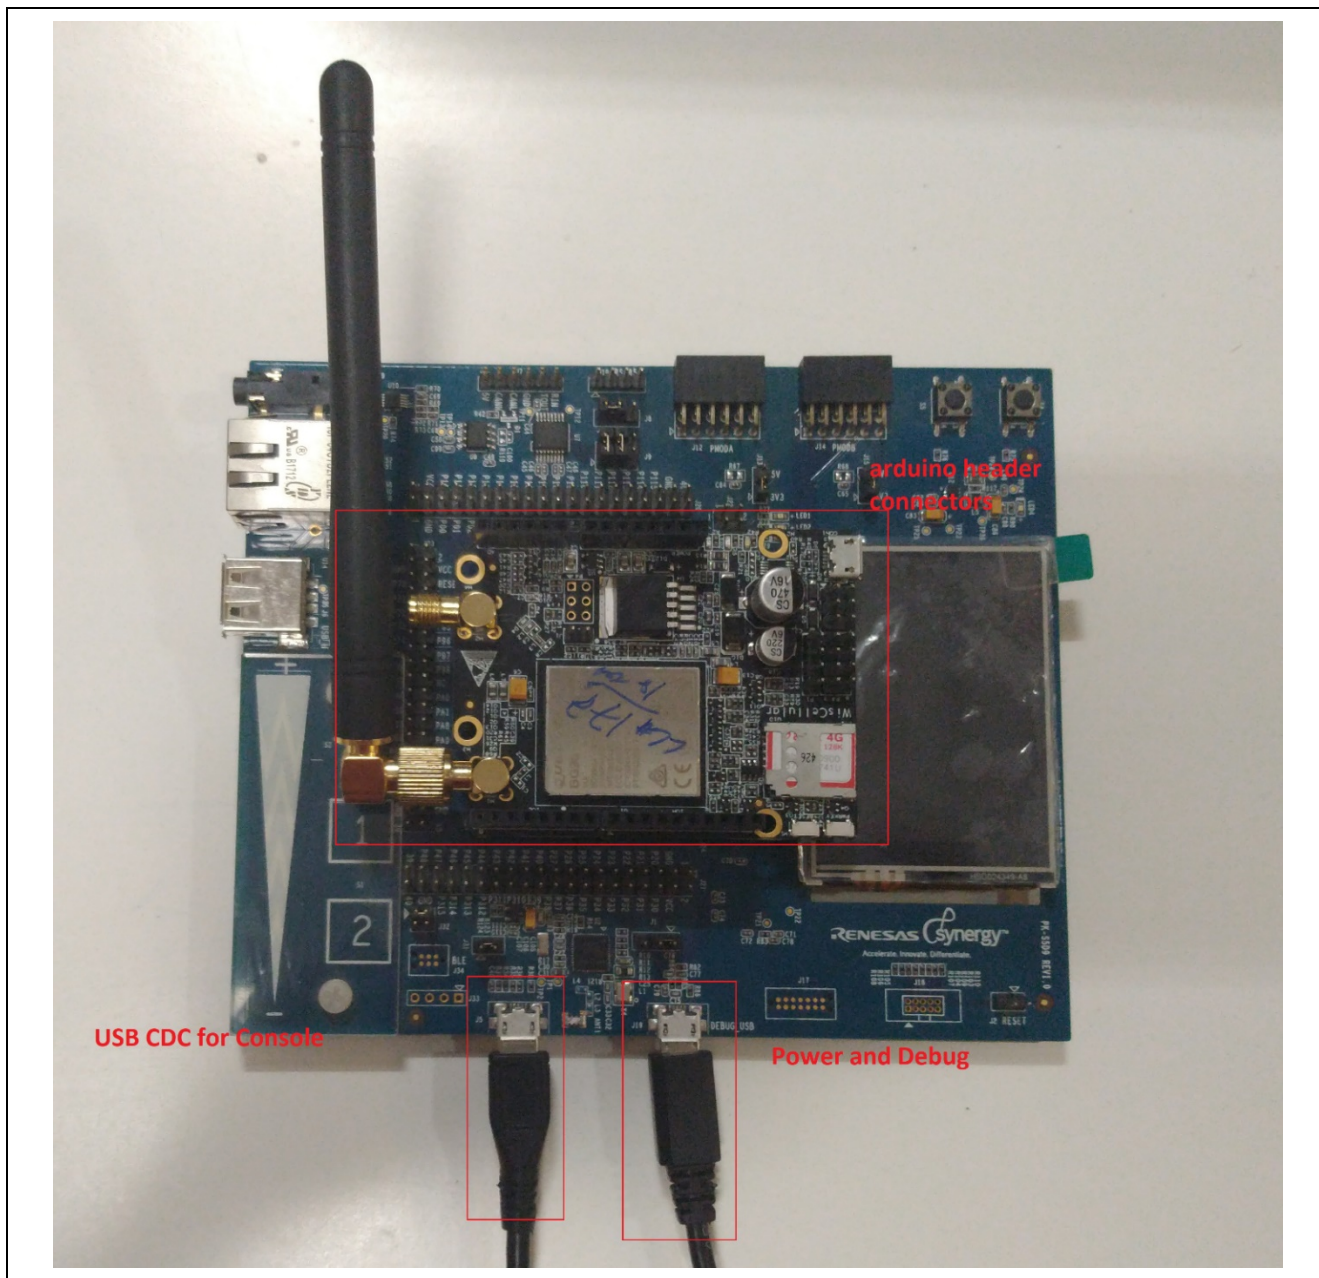

Figure 46. Cellular Hardware Module Hardware Setup for CATM1
2. CATM1 Cellular Hardware Module to Arduino header of the PK-S5D9 as shown in the Figure 46
- In case of CATM1 module connect it to the Arduino headers as shown in the Figure 46.